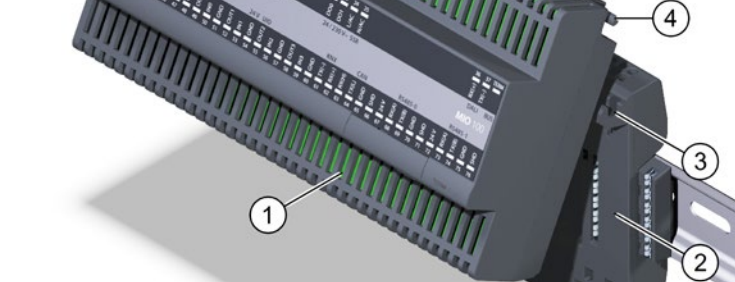

Fig. 7: Install the electronic module
- ▶ Insert the pivot axes (item 4 in Fig. 7) of the electronic module (item 1 in Fig. 7) into the hooks (item 3 in Fig. 7) of the backplane (item 2 in Fig. 7).